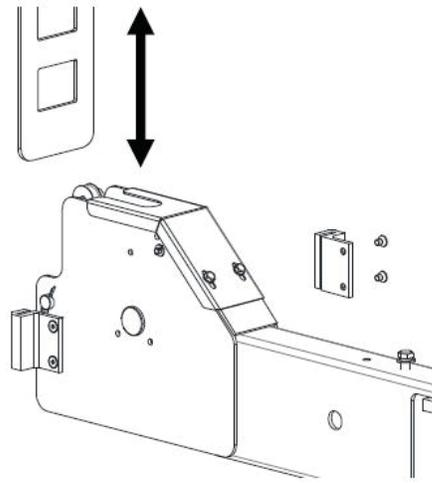

Fig. 19
- Raise the latch rack above the sliders as shown in fig.19 and move the column toward the rear beam until the sliders contact the back of the column.
- Lower the latch rack into the sliders as shown in fig.19.